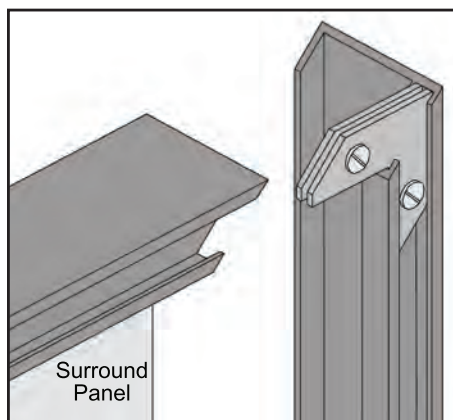
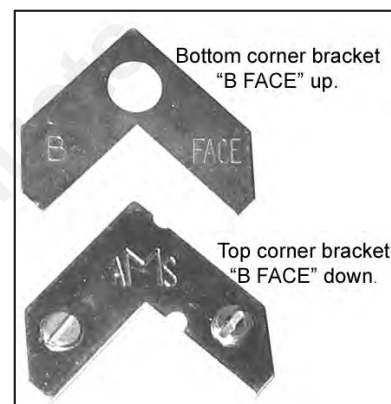

Figure 51: Corner brackets for trim.
Figure 52: Two pieces of corner bracket.
1. Attach one side trim to the top trim, using a corner bracket (see Figure 51) to secure pieces together. There are two (2) main pieces to each corner bracket (see Figure 52). When installing the corner pieces into the trim, the "B FACE" sides must face each other and the screw heads are to face out. With the bracket in place and